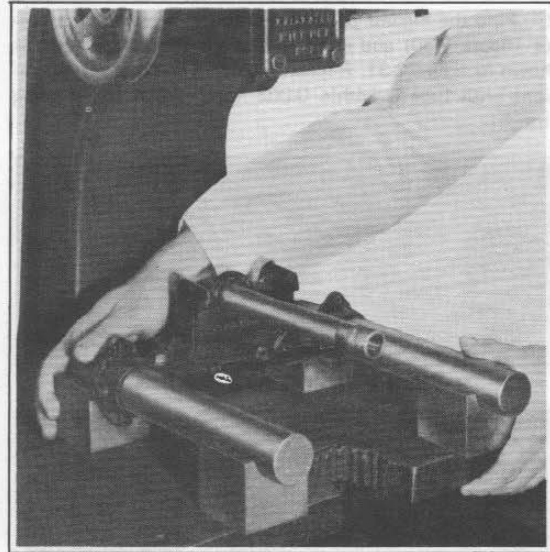

Figure 2-35. Checking Bracket Alignment
4. Place the fork stem and bracket assembly on the four straightening blocks located on the surface plate (see figure 2-35). If the legs rest squarely on straightening blocks, the bracket assembly is correctly trued on a horizontal plane. If bracket is not true, press again, checking alignment after each operation.